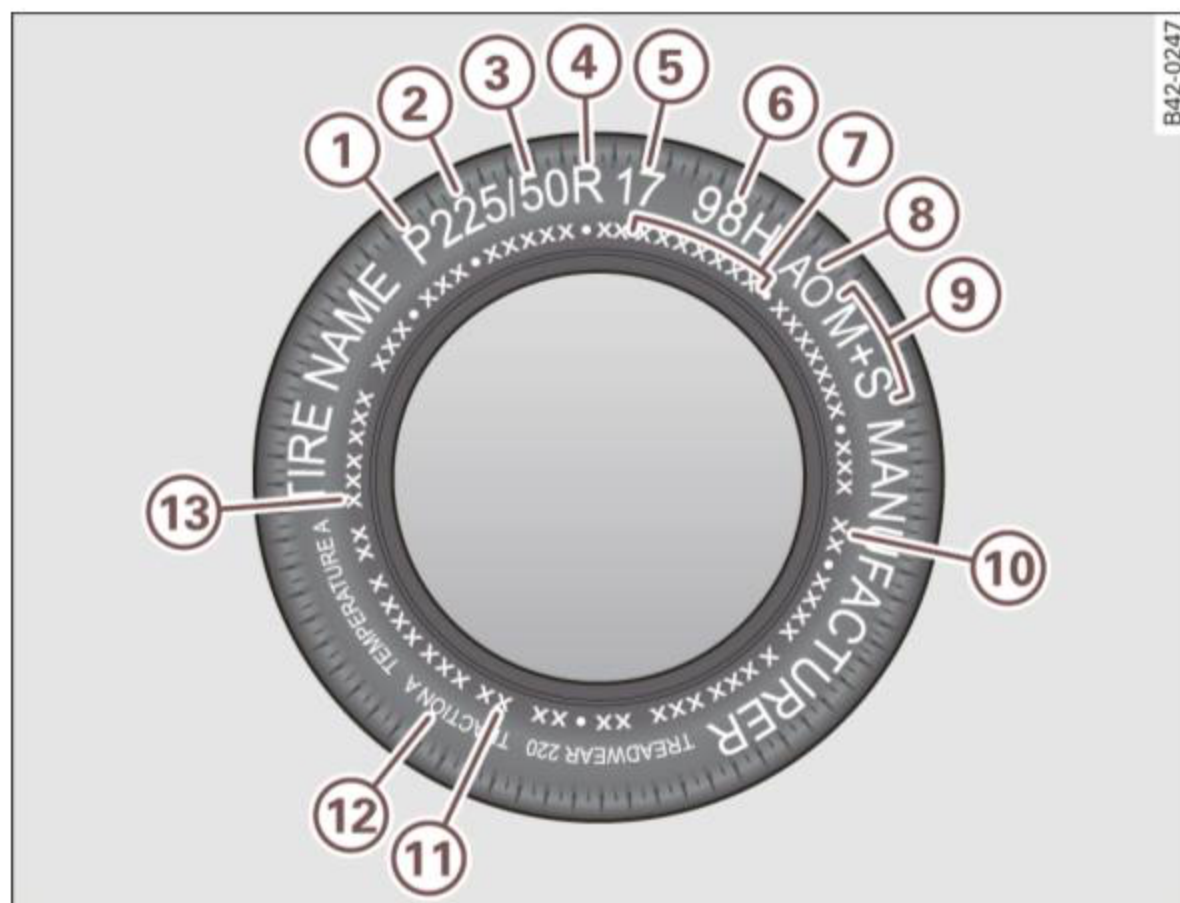

Fig. 126 Tire specification codes on the sidewall of a tire
- Check the tire sidewall ($\Rightarrow$ *page 208*, fig. 126) to determine the designated load rating for a specific tire. ■
Federal law requires tire manufacturers to place standardized information on the sidewall of all tires ⇒ *page 208*, fig. 126. This information identifies and describes the fundamental characteristics, the quality grade of the tire and also provides a tire identification number for safety standard certification and in case of a recall.